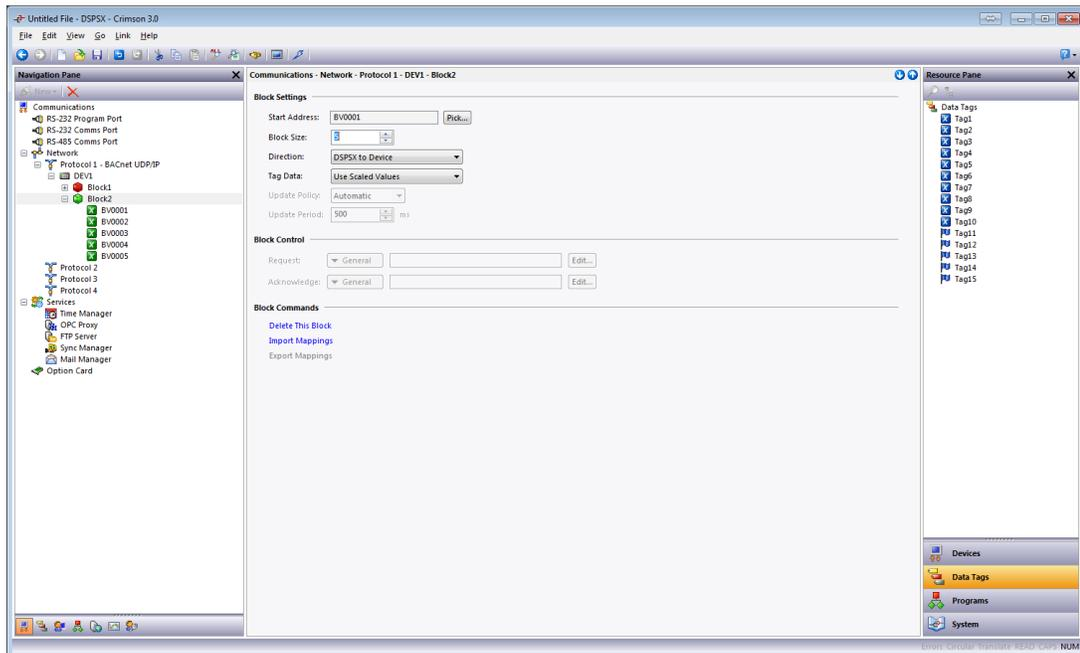

Figure 18.
19. Referring to Figure 18, go to the Navigation Pane and Click on the desired block; *Block 2* in this example. The Communications - Network - Protocol 1 - DEV1 - Block 2 popup appears.